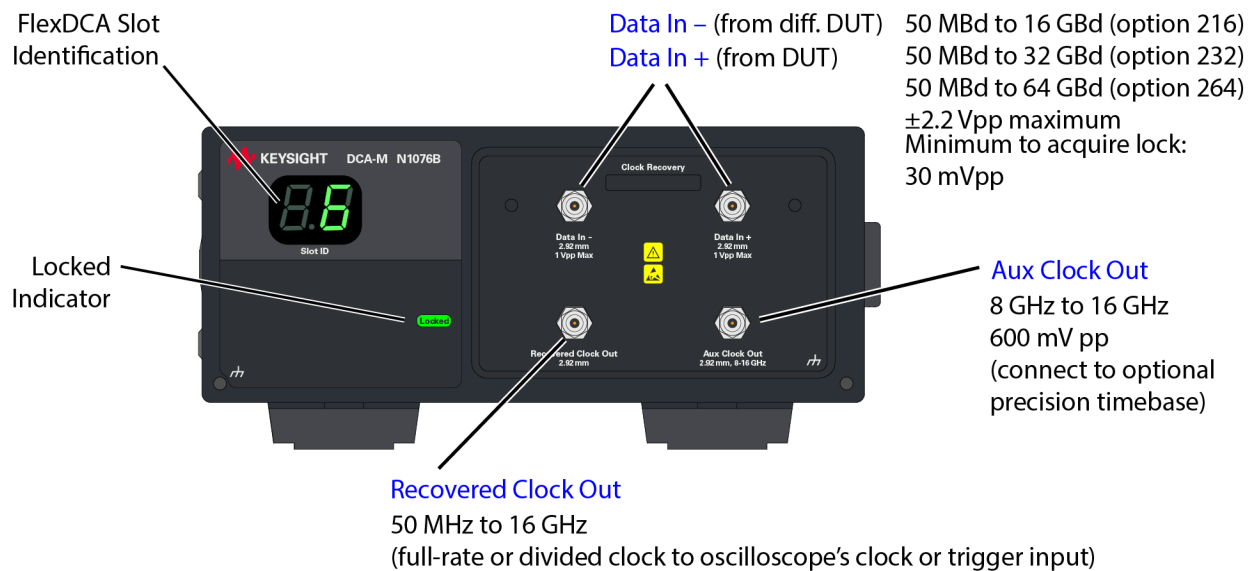

Figure 23. N1076B Front-Panel Connectors
Front-panel input and output connectors along with signal parameters are shown in Figure 23 on page 60. For additional information, refer to the N1076B specifications which are located in FlexDCA's help system.
1. Confirm that the input signal meets the baud rate and amplitude requirements shown in *Figure 23 on page 60*. In this procedure, the following assumptions are made for simplicity. You can change these parameters to any acceptable values.